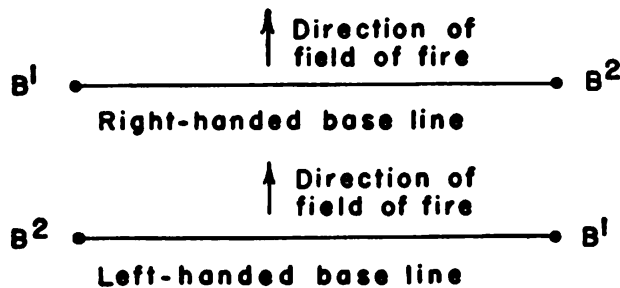

FIGURE 43.—Differentiation between right-handed and left-handed base lines.
Q. What is meant by a right-handed base line? *A.* left-handed base line? *A.* See figure 43.